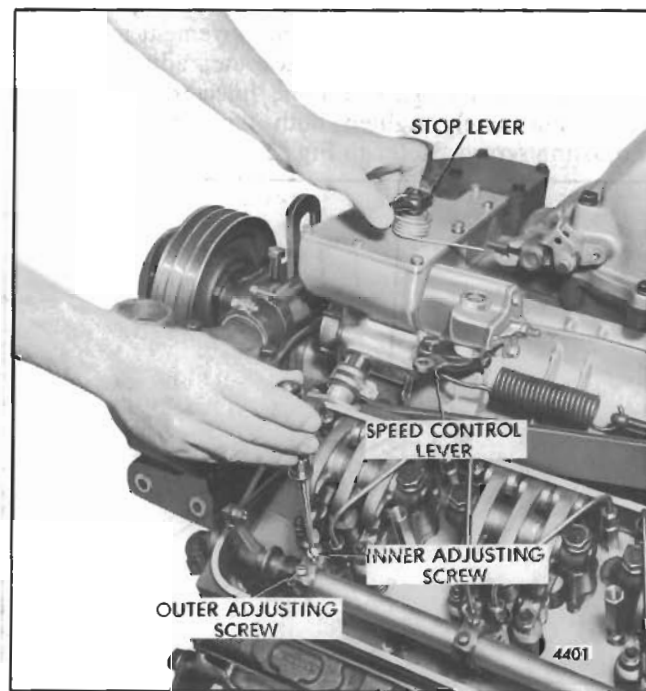

Fig. 2 - Positioning No. 1 Injector Rack Control Lever
4. Move the stop lever to the Run position and hold it in that position with light finger pressure. Turn the inner adjusting screw of the No. 1L injector rack control lever down until a slight movement in the stop lever is noted. Turn down the outer adjusting screw until it bottoms lightly on the injector control tube. Then alternately tighten both the inner and outer adjusting screws. Refer to Fig. 2.